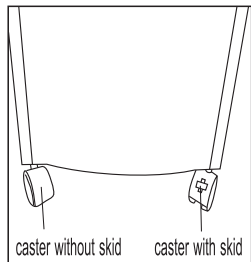

fig.1
**Note: Casters with skid are for the two front holes and casters without skid are for the two back holes at the bottom of the unit. (shown fig.1)**